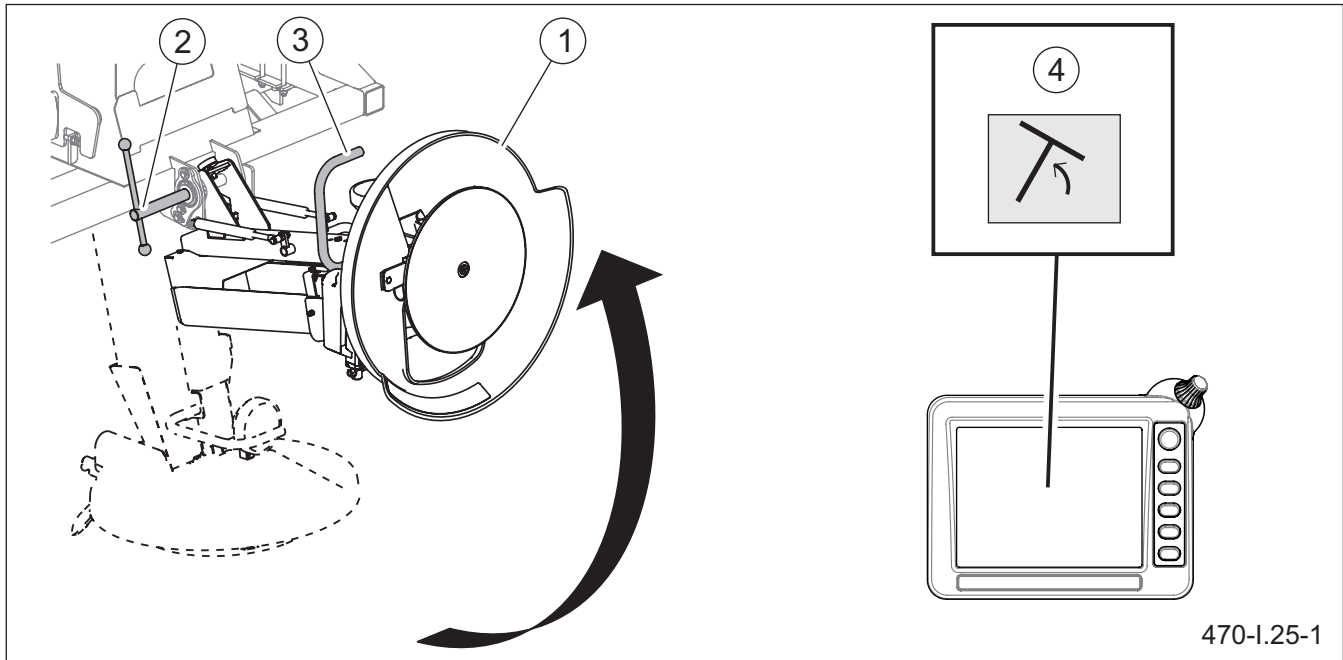

Figure 5.26 Raising the spreading mechanism
- raise the spreading unit and lock it in the upper position (Figure 5.26),